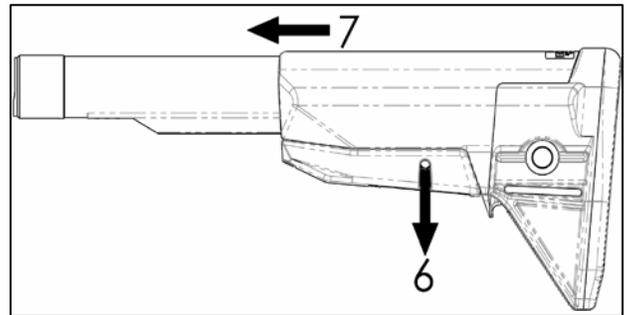

Figure. 2
6. Pull external hand lever down while keeping tool (rod) engaged inside the holes. (See Fig. 2.)
7. Slide stock completely onto the receiver extension. (See Fig. 2.) If it will not slide, pull down on rod/tool while trying to slide on. **NEVER use a hammer to force the stock onto the receiver.**